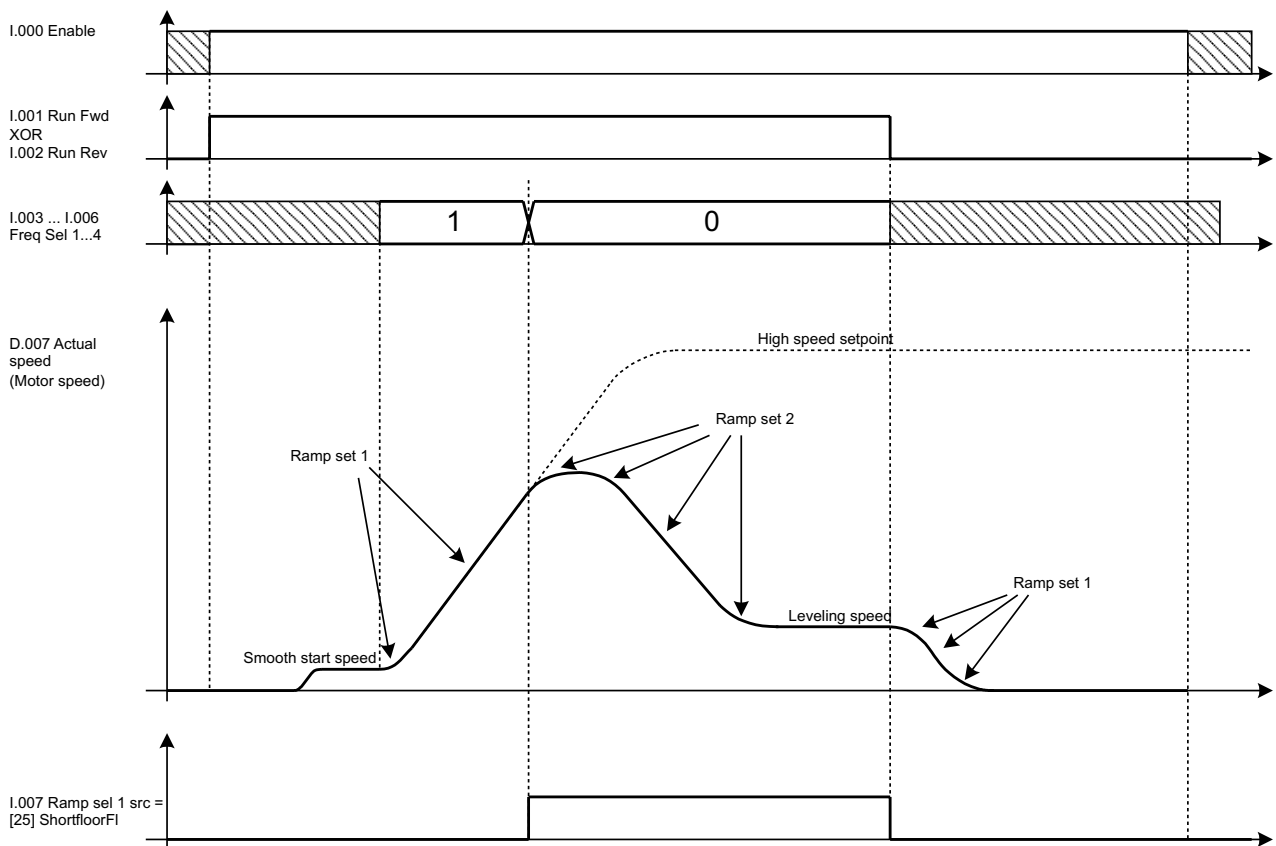

Fig. 7.5 – Short floor sequence
**Ramp Sel 1 ... 2** The binary code defined by the status of these signals selects the set of parameters for ramp profile (jerks, acceleration and deceleration). By default, the first ramp selector is commanded by the **ShortFloorFI** (see chapter 7.3), while the second ramp selector is fixed to FALSE. Therefore, the first ramp set is normally active, and the drive will automatically switch to the second ramp set whenever a short floor is detected (see Fig.7.5).
A typical short floor sequence is reported in Fig. 7.5 .